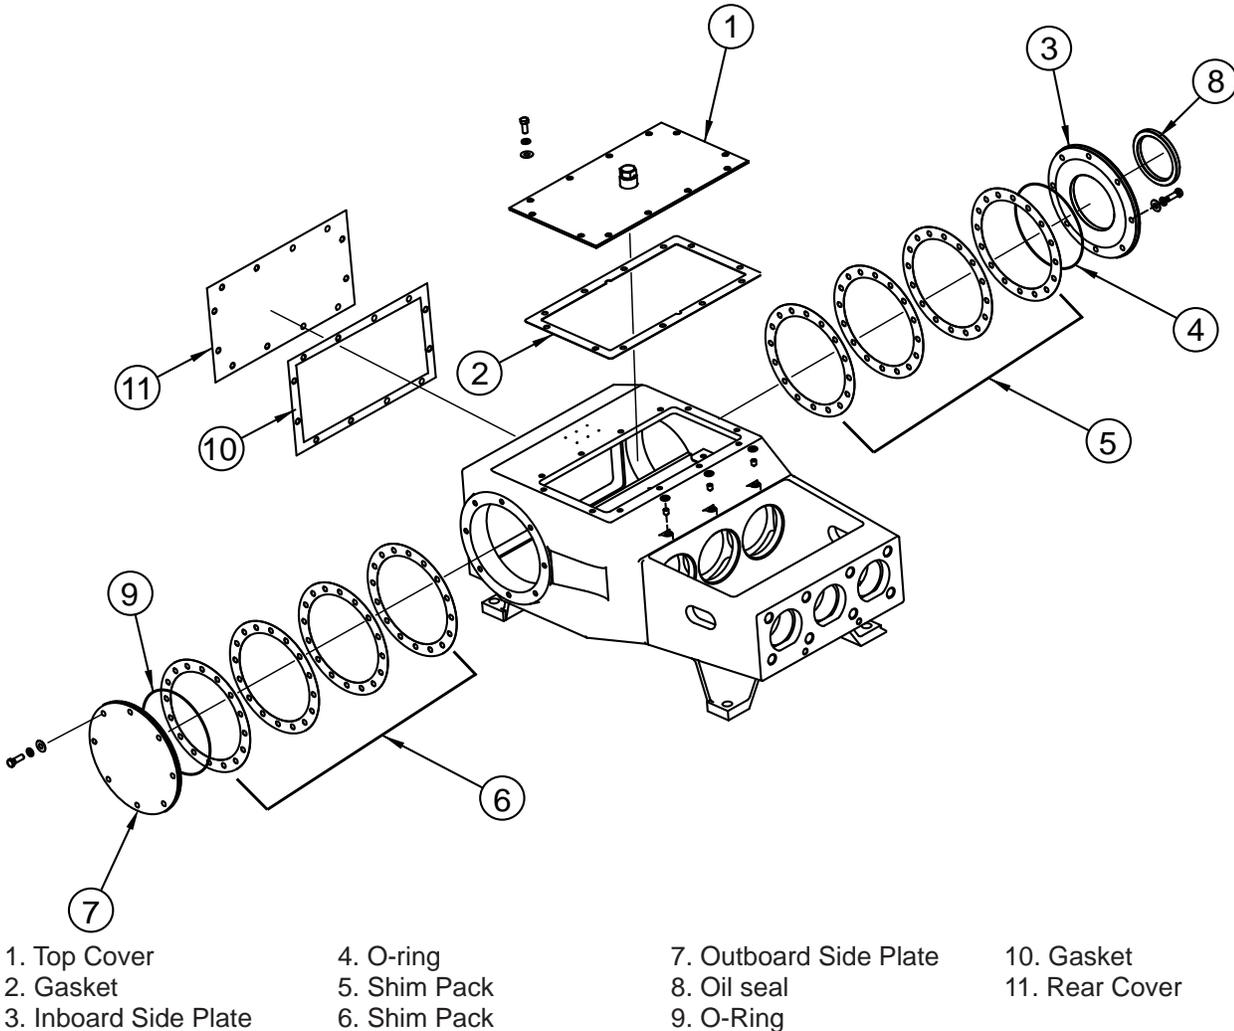

Fig. 155: Power End Covers
4. Remove the 12 capscrews and washers that secure the top cover (Fig. 155) to the power frame. Remove the cover and the gasket.
5. Remove the 12 capscrews and washers that secure the rear cover (Fig. 155) and belt guard to the power frame. Remove the cover, guard and gasket.
7. Remove the eight capscrews and washers that secure the inboard side plate (Fig. 155) to the power frame.
9. Remove the eight capscrews and washers that secure the outboard side plate (Fig. 155) to the power frame.